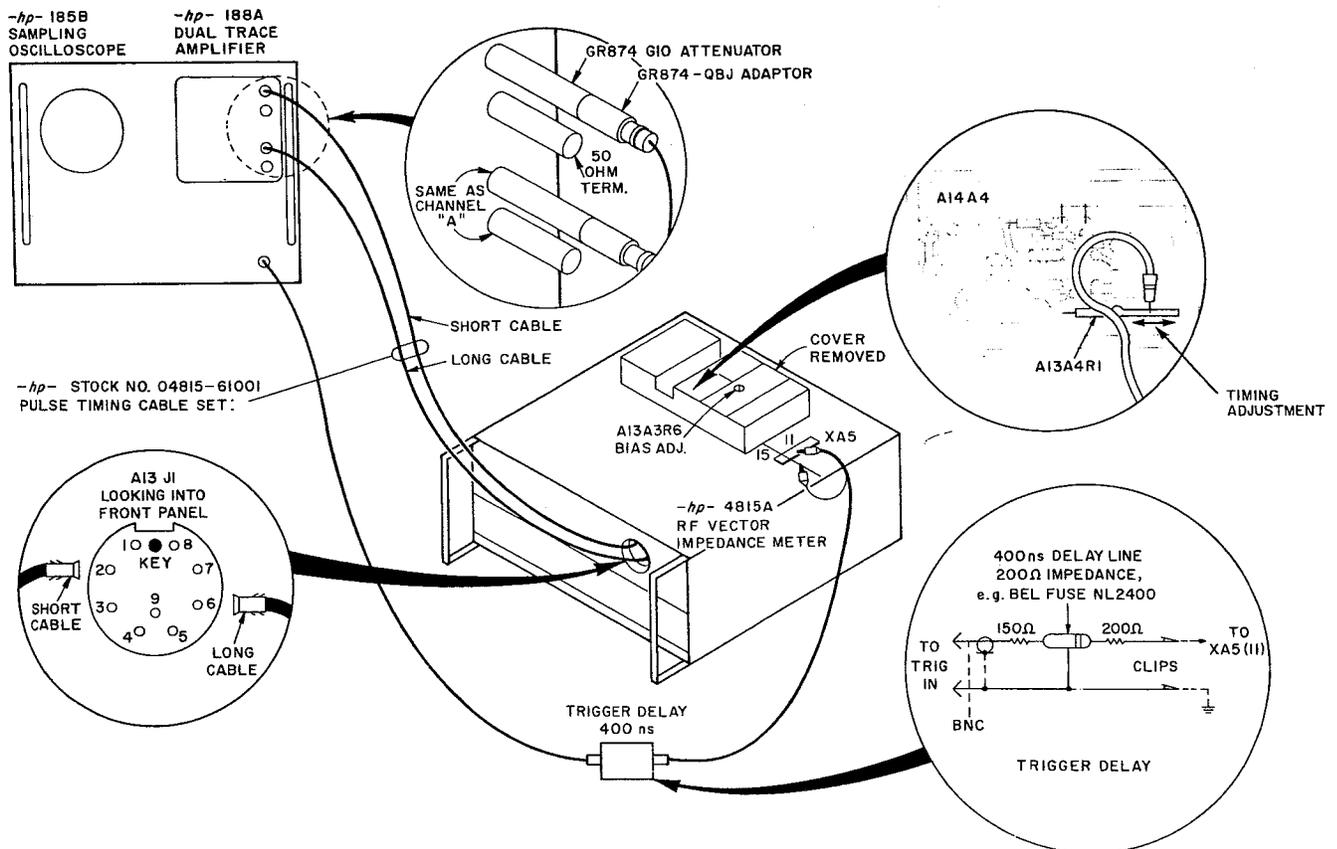

Figure 5-10. Setup for Pulse Generator and Timing Adjustments
- a. Connect equipment as shown in Figure 5-10. Short cable of 04815-61001 Pulse Timing Cable Set is connected to A13J1 (2), the longer one to A13J1 (6).
CRT. Pulse peaks should not be separated by more than 100 picoseconds (See Figure 5-11 B). Adjust connection point of A13W9 (See Figure 5-10 for detail) until timing is correct. If A channel pulse appears first in time, move connection point toward A13A4R1, a 470Ω resistor. If B channel pulse appears first, move connection point away from A13A4R1. Move connection only 1/16" at a time, resolder, check timing and readjust as necessary.